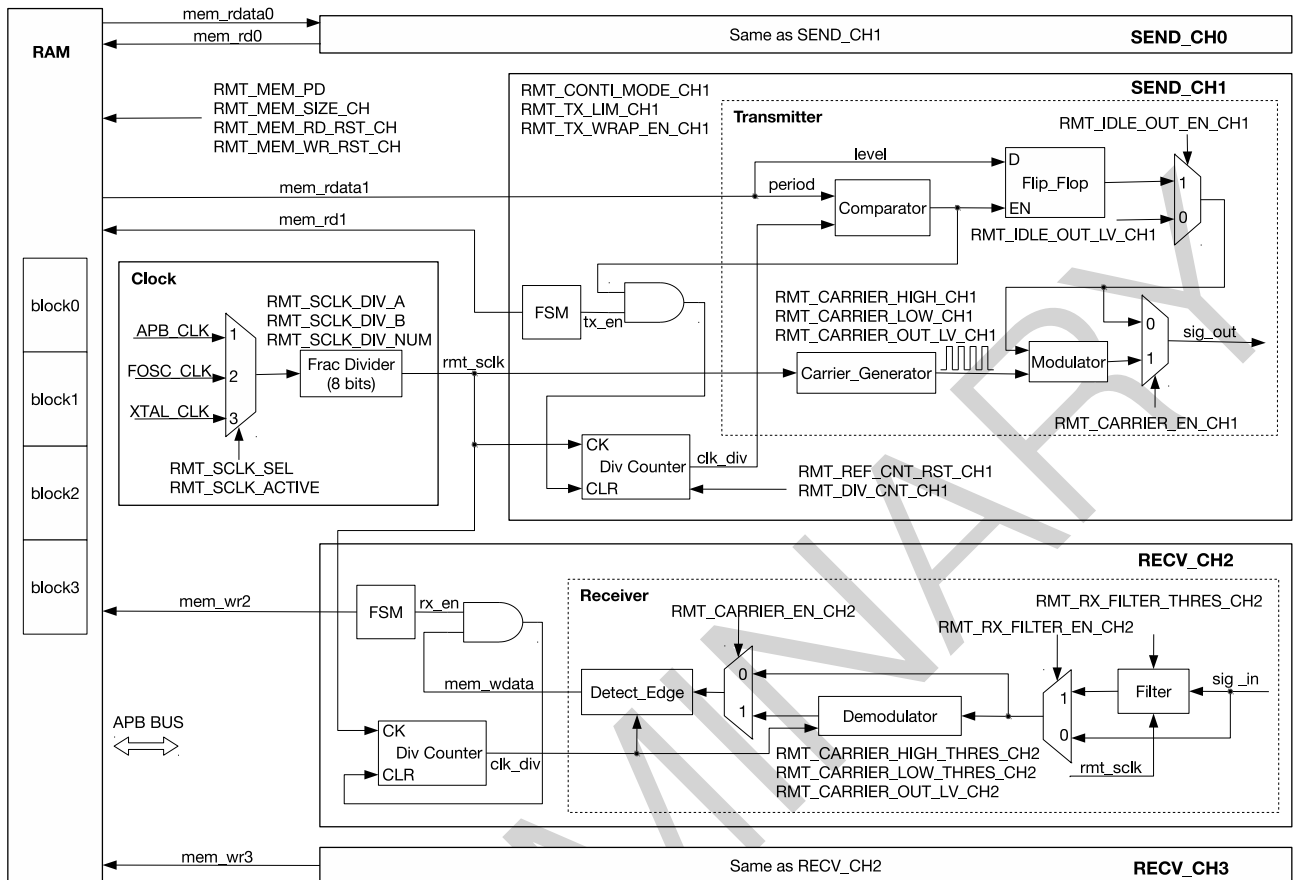

Figure 31-1. RMT Architecture
- Period: points out how many `clk_div` clock cycles the level lasts for, see Figure 31-1.
The clock source of RMT can be APB_CLK, FOSC_CLK or XTAL_CLK, depending on the configuration of RMT_SCLK_SEL. RMT clock can be enabled by setting RMT_SCLK_ACTIVE. RMT working clock (rmt_sclk) is obtained by dividing the selected clock source with a fractional divider, see Figure 31-1. The divider is:
RMT_DIV_CNT_CH n/m is used to configure the divider coefficient of internal clock divider for RMT channels. The coefficient is normally equal to the value of RMT_DIV_CNT_CH n/m , except value 0 that represents coefficient 256. The clock divider can be reset by clearing RMT_REF_CNT_RST_CH n/m . The clock generated from the divider can be used by the counter (see Figure 31-1).